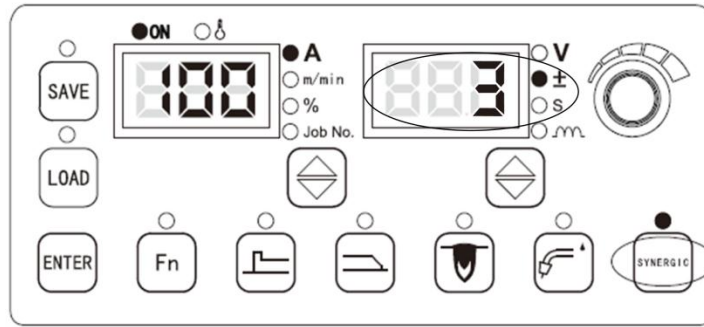

Figure 3-6 Correcting the voltage set by the system in the synergic setup mode
2. Press the **Switch among the options of the right LED**  button to select the \pm option. When the indicator is on or flashes, use the voltage knob on the wire feeder or on the control panel of the welder to finely tune the voltage automatically set in the synergic setup mode. See Figure 3-6. You can press the **Switch among the options of the right LED**  button to view the voltage set by the system and the corrected arc length.